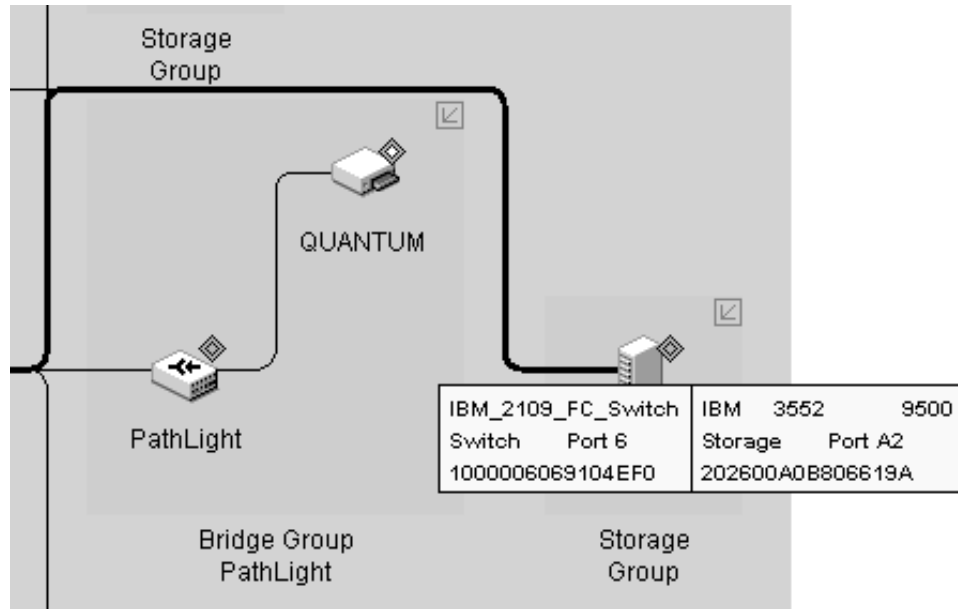

Figure 38. Device tip
- Determine the source and destination of a connection through the Device Tip. The Device Tip, shown in Figure 38 on page 123, pops up when you place the cursor over the selected connection.